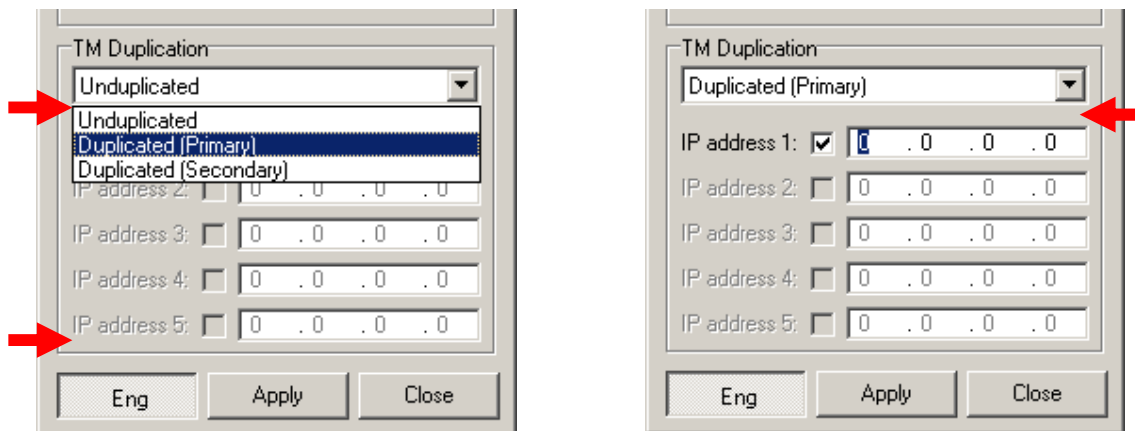

Figure 63. Setting for Duplicated (Primary).
1. Open the TM Status panel and select the 'Network' button (see **Section 4.3 – Setting the TM IP Address**). The 'TM Network Setup' page shown in part in **Figure 63** overleaf will open.